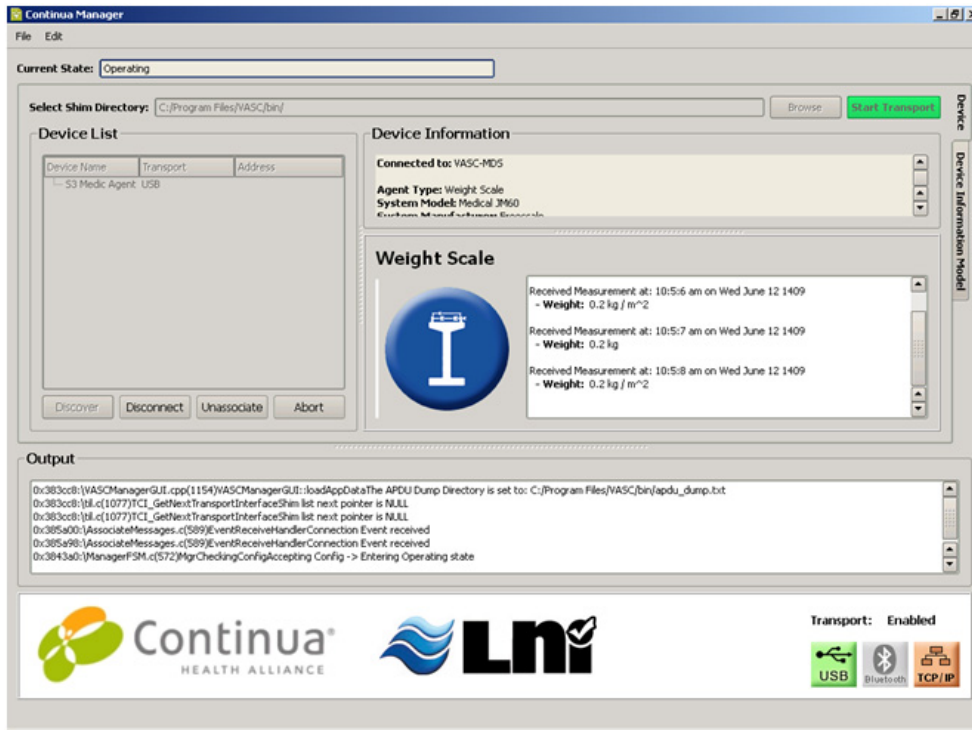

Figure C-9. Weigh scale device detection with Continua Host
8. When the push button to send the measurement is pressed, measurements are sent to the Continua Host Manager as shown in Figure C-9.